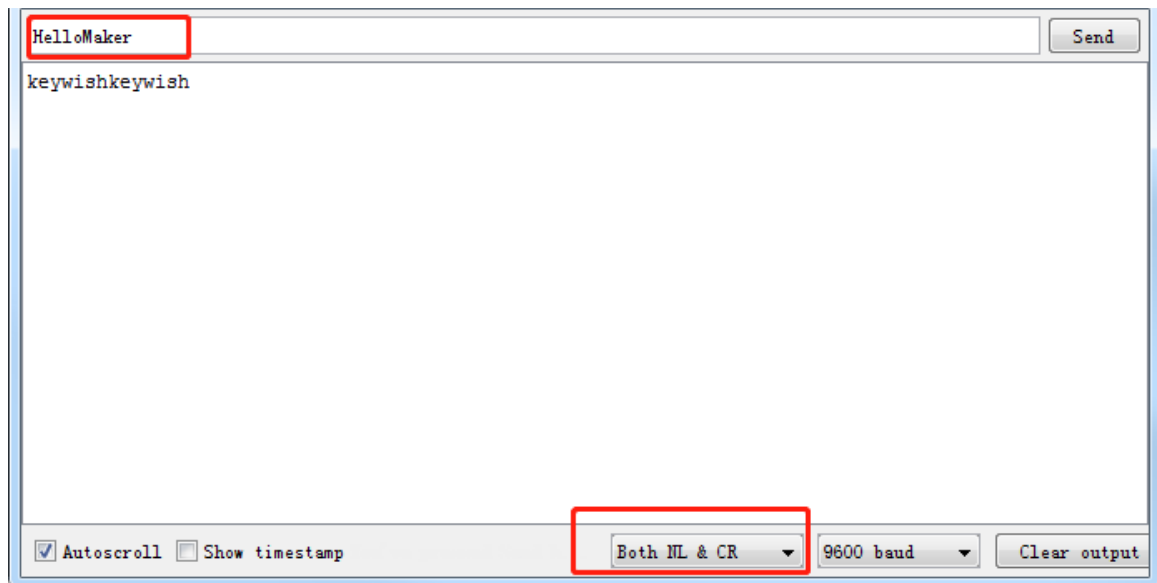
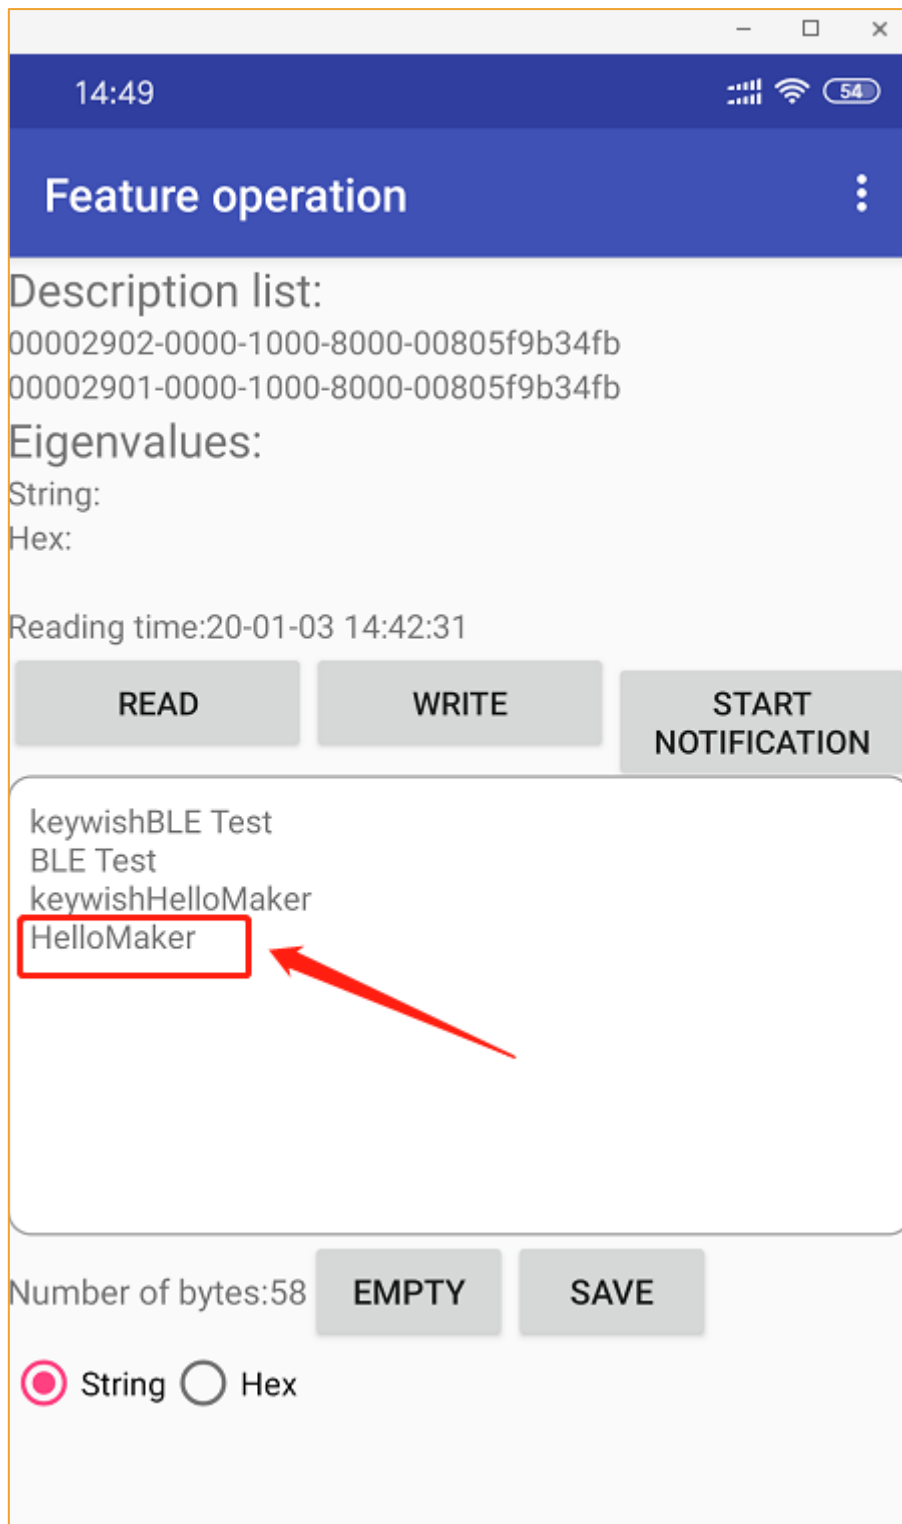

Figure 1.20
Figure 1.21
- 6) As shown in figure 1.20, we can input the content we want to Send on the serial monitor, and then click "Send" to Send the data to the mobile APP via bluetooth, as shown in figure 1.21 .